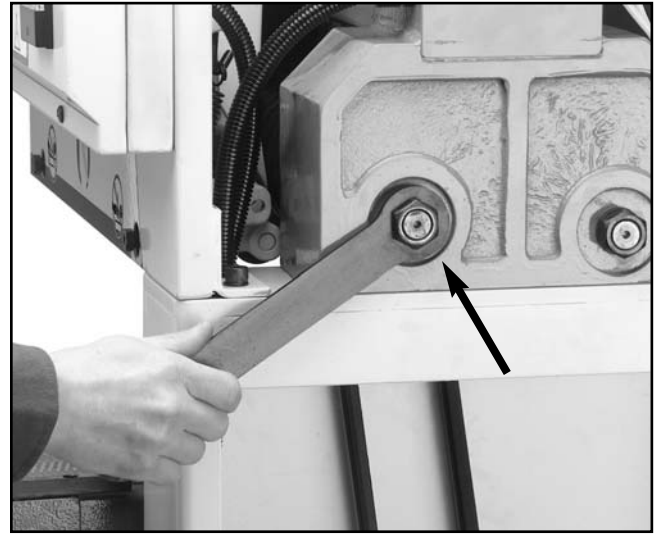

Figure 31. Remove this roller shaft nut located behind right-hand access door.
7. Open the right-hand access door and locate the large nut shown in **Figure 31** and remove it with the box wrench included with the machine.